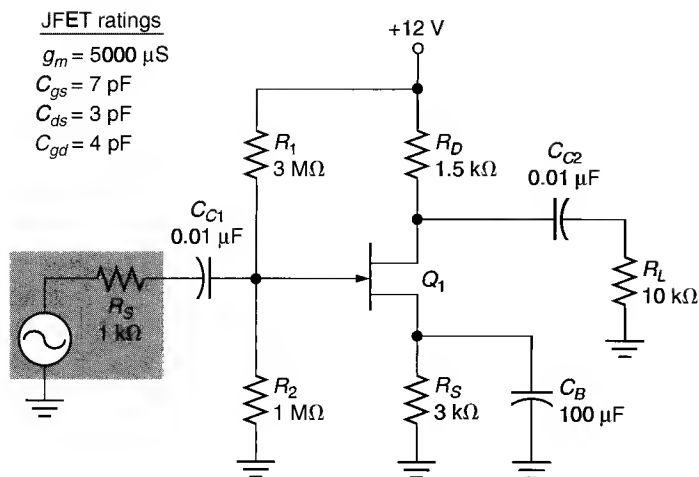

FIGURE 14.36
32. Calculate the value of f_{IG} for the amplifier in Figure 14.36.
34. Calculate the value of f_{1D} for the amplifier in Figure 14.36.
36. Calculate the values of f_{2G} and f_{2D} for the amplifier in Figure 14.36.